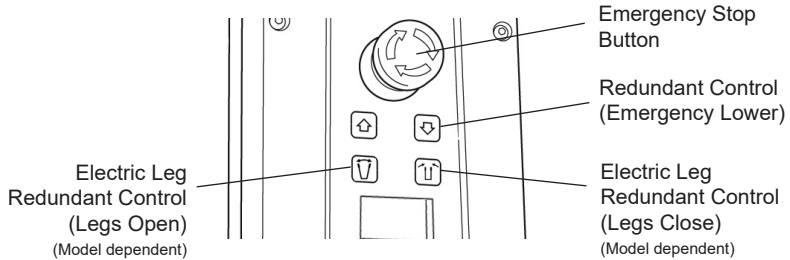

Fig. 8
- Clip the battery onto the control box and ensure the red emergency stop button, located on the controller is in the out (ON) position by turning clockwise (Fig. 8).